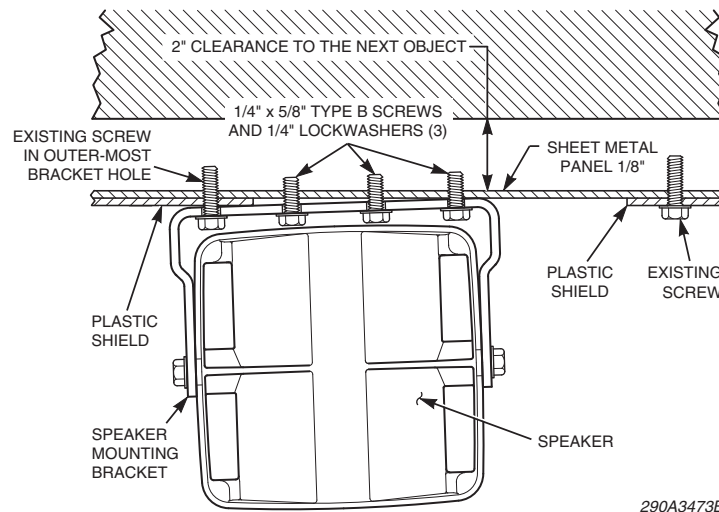

Figure 4: Speaker mounted through plastic shield and sheet metal
2. Use the outer-most bracket hole to temporarily install the bracket on the mounting surface with the screw removed in step 1 (*Figure 4* on page 6).